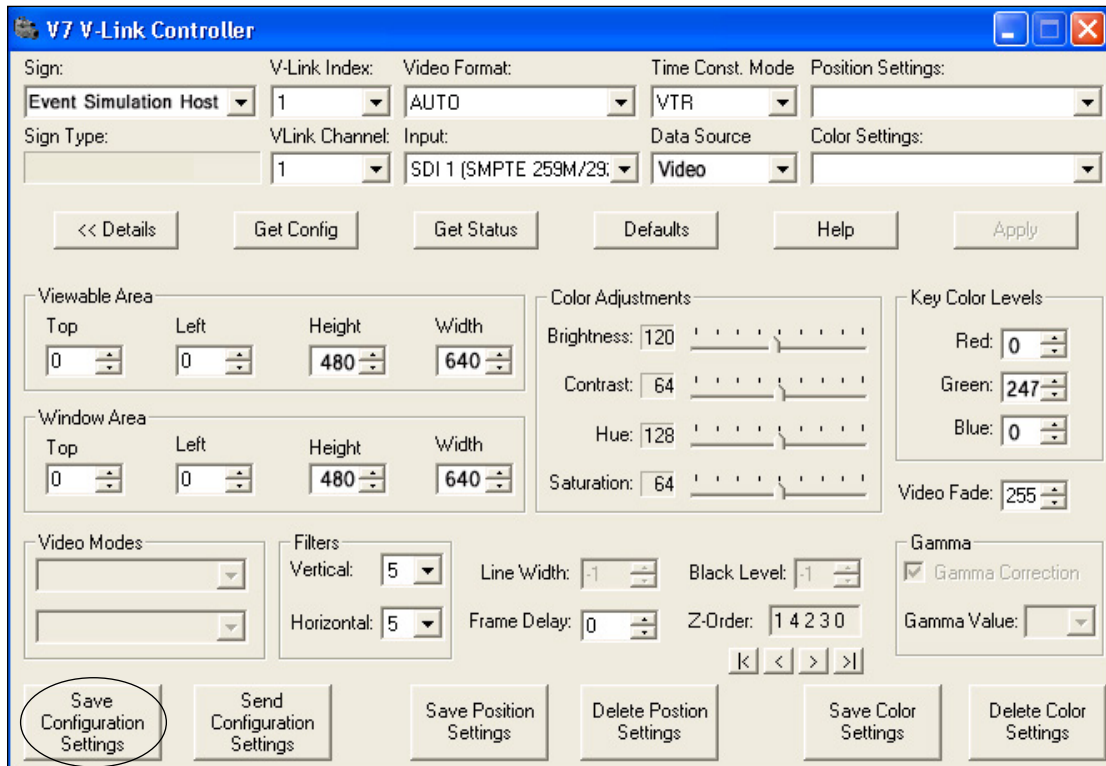

Figure 23: Save Configuration Settings
- Click the **Save Configuration Settings** button in the bottom-left corner. Refer to **Figure 23**.